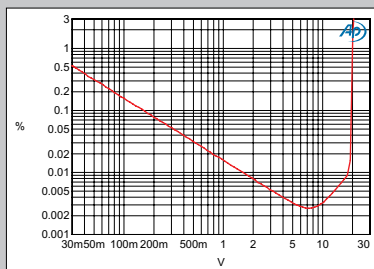

Fig.12 Classé CP-800, volume control set to "14.0," balanced distortion (%) vs 1kHz output voltage into 100k ohms.
The maximum input level the CP-800 can accept depends on whether it is set to Analog Bypass or EQ. Fig.12 shows how the THD+noise percentage in the preamp's output changes with the output level of a 1kHz tone into 100k ohms with the volume set to its maximum. The output stage clips at 20V RMS, equivalent to an input voltage of 3.9V. (Clipping is defined as when the THD+N percentage reaches 1%.) With a very low load
Fig.12 suggests that the measured THD at typical signal levels is dominated by noise, so I haven't shown how the measured THD+N percentage changes with frequency. (It doesn't.) With the input shorted and the volume control set to its maximum, the unweighted, wideband signal/noise ratio was 71dB ref. 1V output. Switching in an A-